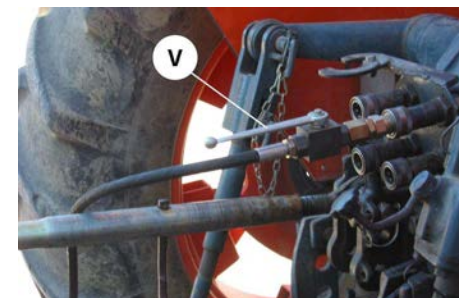

Fig. 40
3) Disconnect the third point and remove the hydraulic tube, closing the tap **V** (Fig. 40).